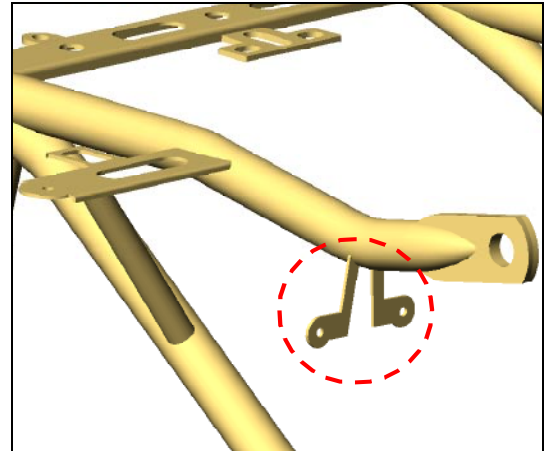

Figure 4
- f. Cut and remove the Bank Angle Sensor mount tab from the Trunk stay. Figure 4